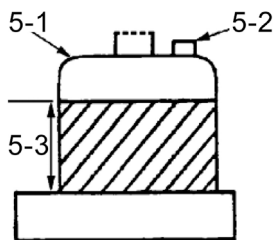

Fig. 5
7. Reassemble and fill the oil tank through the oil plug hole to 80% capacity with new hydraulic jack oil, about 2-1/2 in. deep in pump housing (Fig. 5).